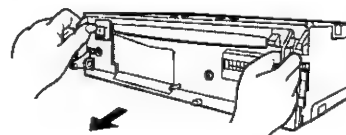

Fig. 3
- Remove the unit by pulling it with both hands. (→ Fig. 3)